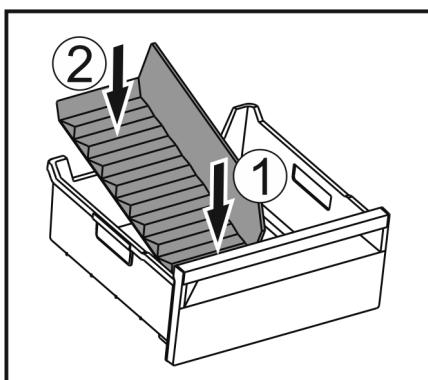

Fig. 131
- ▶ Insert the front part of the ice compartment divider. Fig. 131 (1)
- ▶ Lower the rear part of the ice compartment divider to the drawer bottom. Fig. 131 (2)